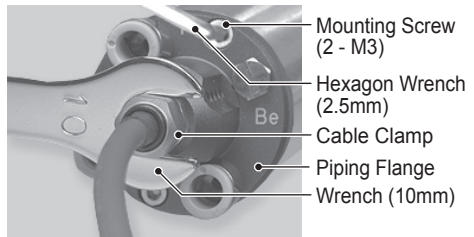
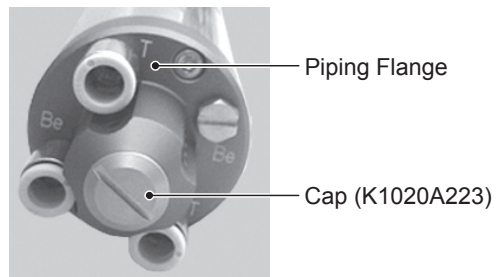

Fig. 21
Fig. 23
- (1) Place the Wrench (10mm provided wrench) on the Cable Clamp and turn it counter-clockwise to remove the Cable Clamp (Fig. 21).
- (2) Loosen the Mounting Screw (2 - M3) on the Piping Flange by using a 2.5mm Hexagon Wrench (not included / prepared by the end-user) (Fig. 21).
- (3) Remove the Piping Flange from the Air Bearing Turbine Spindle body.
- (4) Remove the Sensor Set Screws (2pcs. M2.6) inside the Piping Flange by using the 2.0mm Hexagon Wrench (provided).
- (5) Carefully pull out the Cable Clamp and Wiring Cable from the Piping Flange.
- (6) Install the Cap (Standard Accessory : K1020A223) to the Piping Flange by using a Flat-Blade Screwdriver (not included / provided by the end-user) (Fig. 23).
- (7) Install the Piping Flange to the rear end of Air Bearing Turbine Spindle with the 2pcs. / 3mm set Screws (provided) and securing with the 2.5mm Hexagon Wrench (Provided) (Fig. 23).
- (8) Supply the proper air pressure to the Air Bearing Supply Air Piping Connection Port (Be). Ensure there is no air leakage and proper flotation of the rotating shaft.
- (9) If the installation is successful, please perform the break-in procedure detailed in " 10 - 1 Break-in Procedure " section. If installation is abnormal, re-check the mounting of Piping Flange.